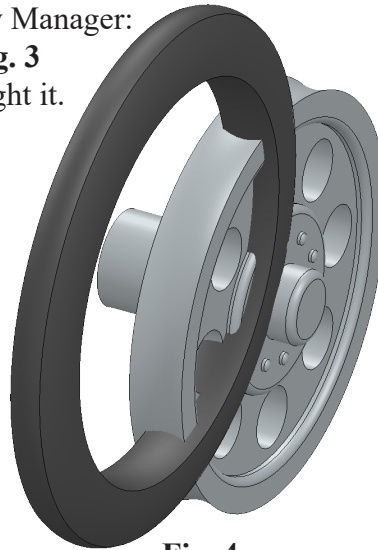

Fig. 4
Step 7. Click approximately where Tire is positioned in **Fig. 4**.